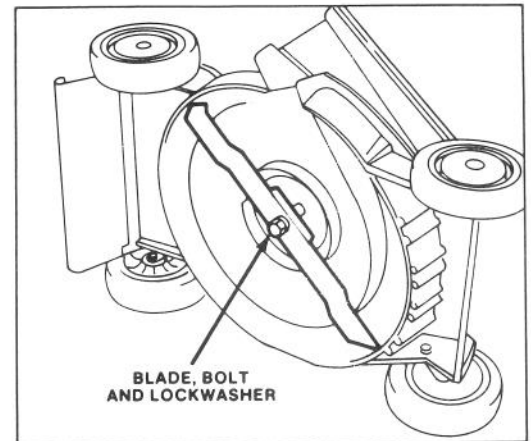

Figure 12
2. Tip mower on its left side (Fig. 12).
3. Tip mower on its left side (Fig. 12).
5. REMOVING BLADE — Grasp end of blade using a rag or thickly padded glove. Remove blade bolt, lockwasher and blade (Fig. 12).